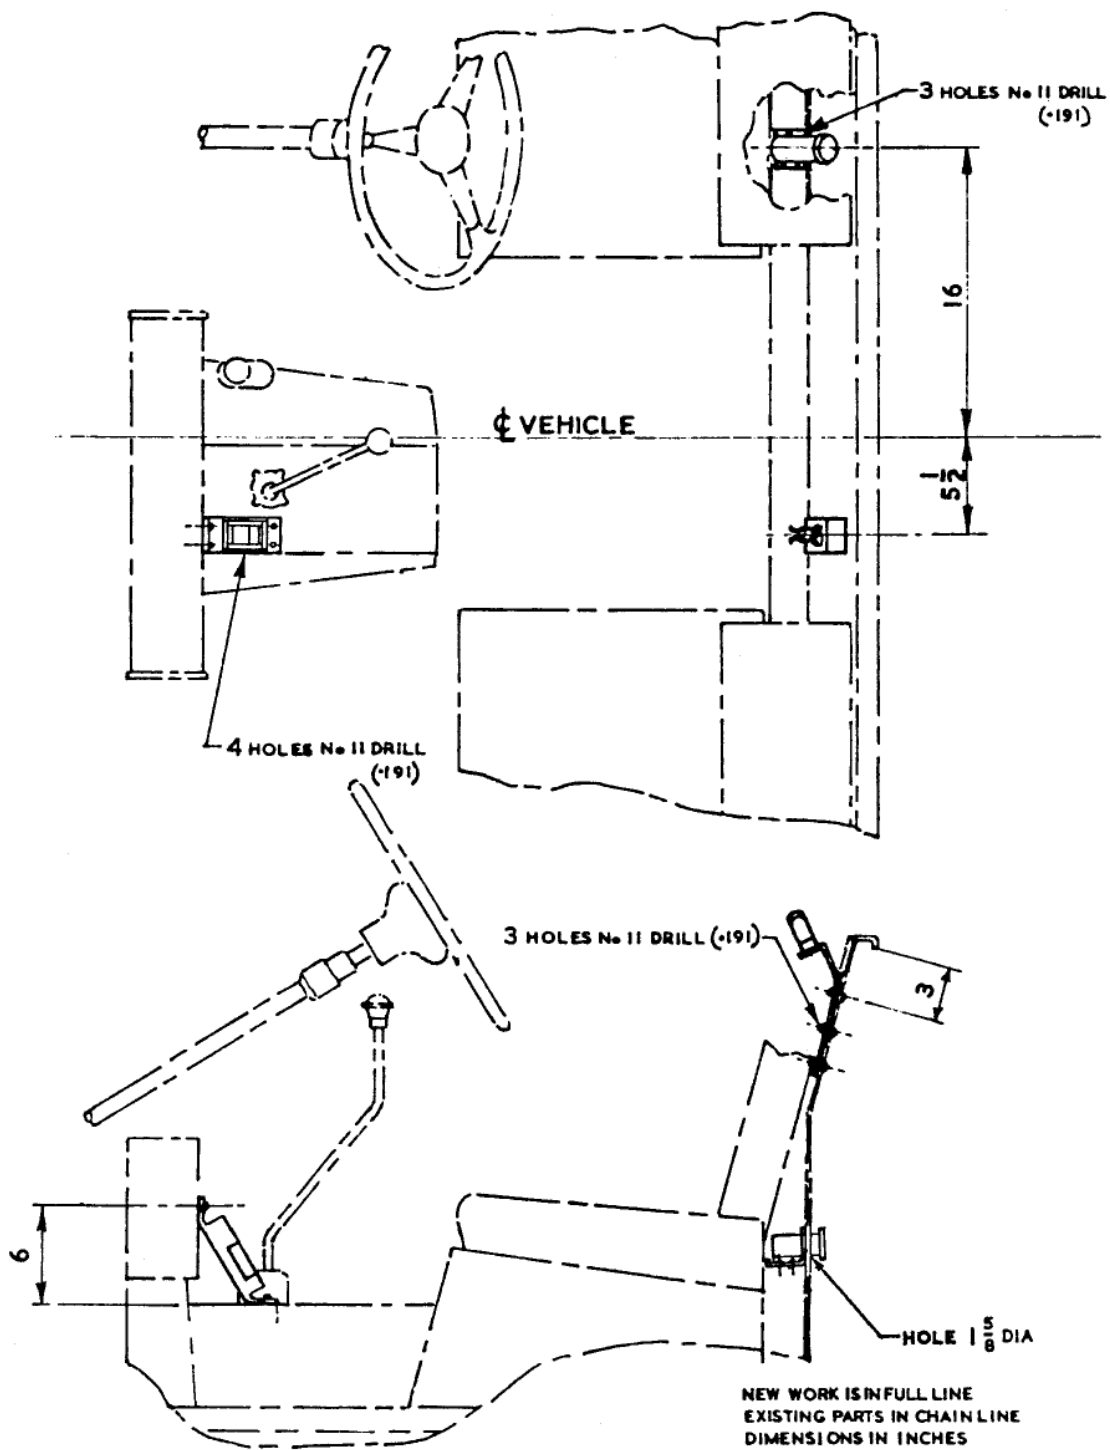

FIG 1 - WEAPON CLIP, FITTING DETAIL
- a. Cut a 1 5/8 inch diameter hole in the panel behind the driving seat in the position as detailed in fig 1.
- d. Position the Bracket, clip (fig 1) on the panel and using it as a template, mark the rivet holes.
- g. Using the Housing support butt as a template, mark out the rivet holes on the gearbox cover and the bulkhead as shown in fig 1.